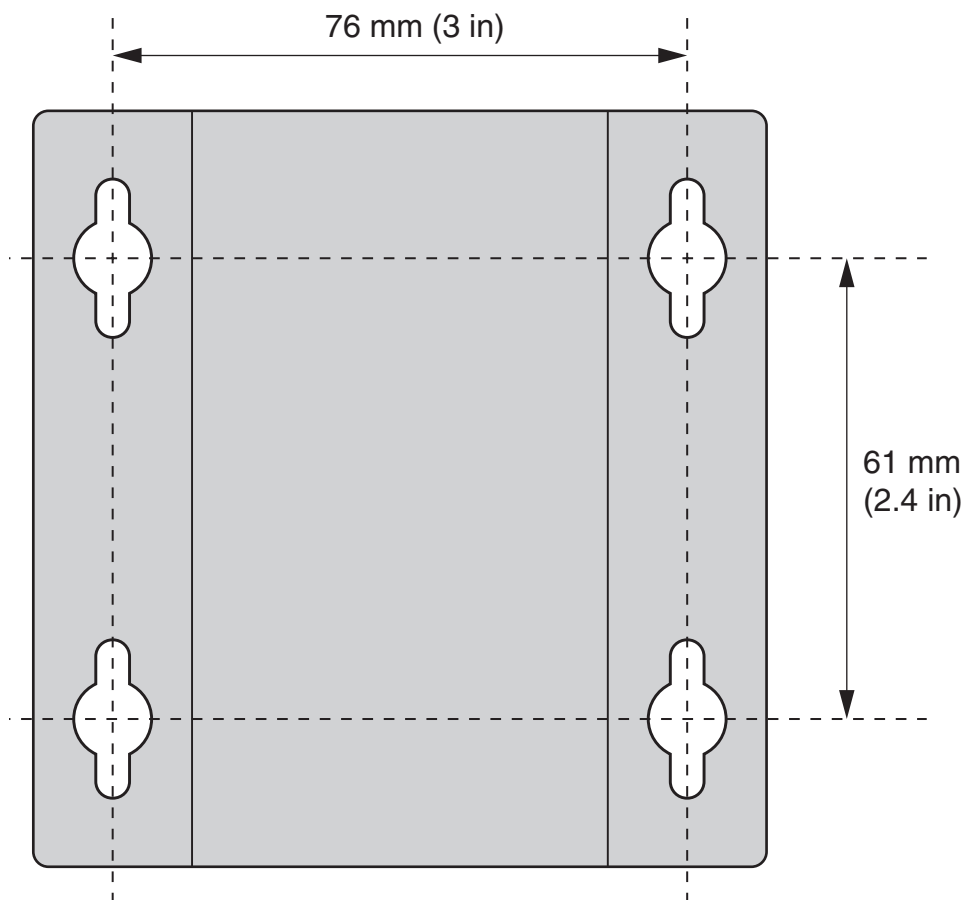

Figure 16. Wall-mount Template
5. Print out the template in Figure 16.